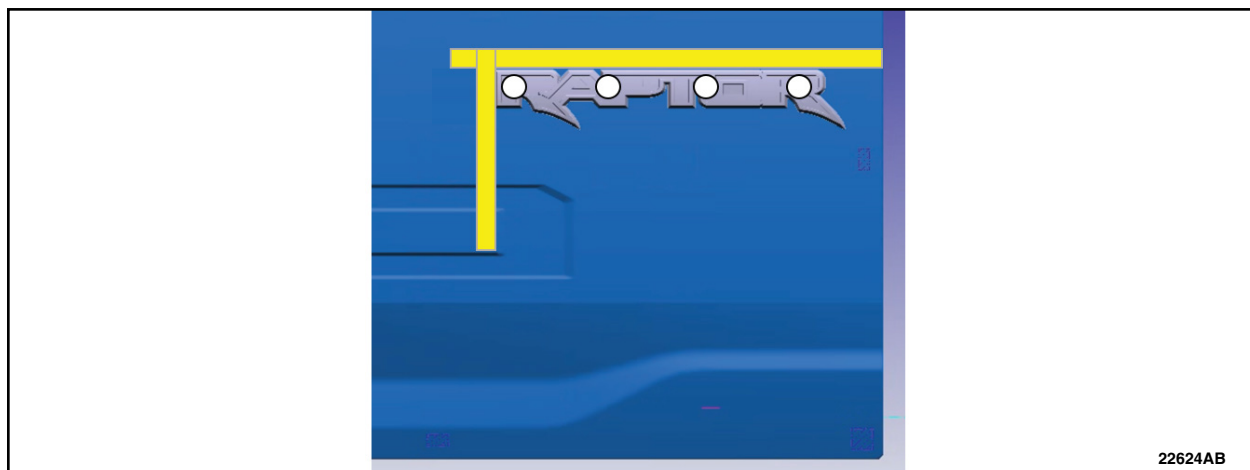

FIGURE 17
56. Remove the tape liner from the back of the badge and install to the door using the locating tape to properly align the badge. See Figure 17.
57. Using medium hand pressure, press for 3 seconds at a minimum of 4 separate locations along the length of the badge until the tape is fully adhered. See Figure 17.